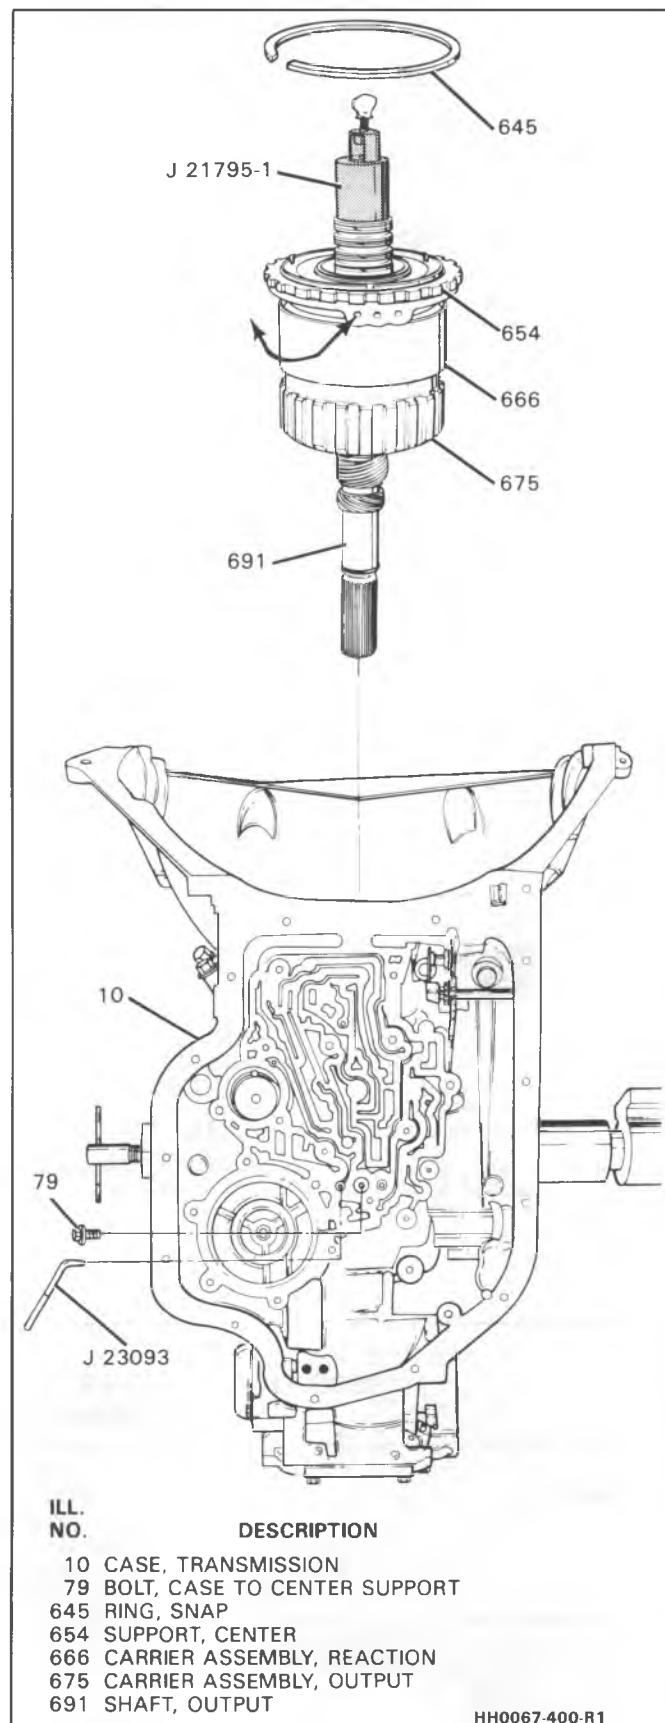

Figure 60 - Installing Center Support and Gear Unit Assembly
Install or Connect (Figure 60)
1. Snap ring (657), if removed.
2. J 21795-1 to main shaft (681).
3. With transmission in a vertical position, align bolt hole in center support (654) with hole in case (10) and carefully lower into case.
4. Case to center support bolt (79), finger tight.
5. Snap ring (645).
6. Locate J 23093 into the center support (654) direct clutch passage through case (10). Apply pressure on J 23093, in direction of arrow (Figure 60), seating the center support splines against the case splines.
7. Torque bolt (79) to 20-25 lbs. ft. (27-34 N·m)